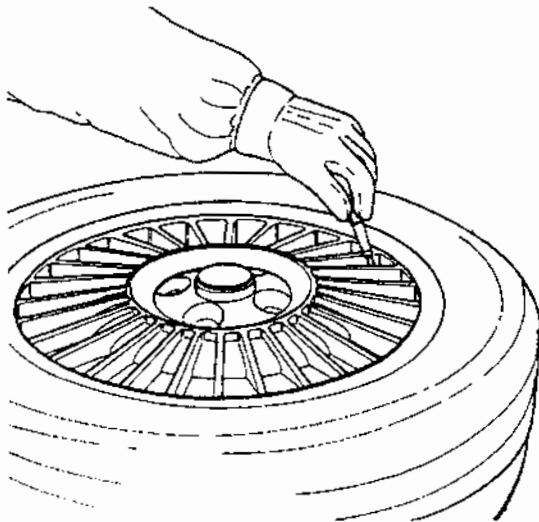

Fig.11
A. Remove all wheel-weights from the rim. Remove the valve stem or valve stem core and deflate the tire (Fig. 11).